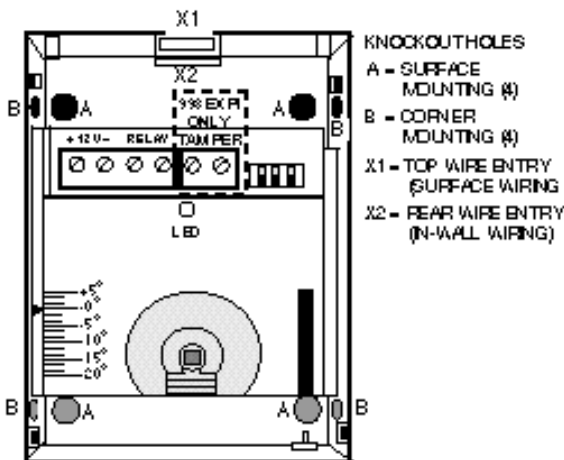

Figure 2. Detector Base
2. Refer to Figure 2. Knockout holes "A" in the base are for normal surface mounting on a wall (slide PC board up for access to bottom holes, down for access to top holes). For corner mounting, see **B. Corner Mounting**. Also break out the desired wire entry hole at this time, marked X1 or X2 in Figure 2).